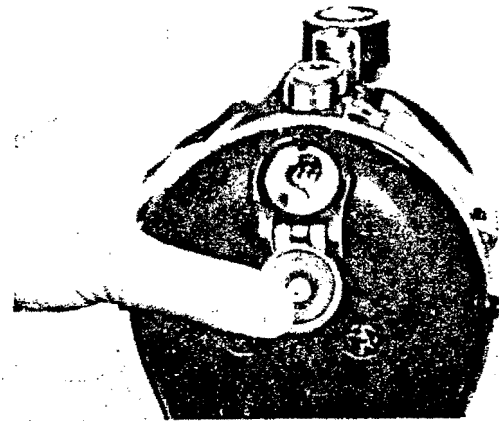

Figure 7-36. Timing Window
**7-51. INSTALLATION OF MAGNETO.** Before installing a magneto on the engine, the internal timing of the magneto should be checked. To do this, remove the breaker compartment cover. Attach the red wire of PWA-2417 Indicator to the breaker points and ground the black wire to the magneto housing. Place a straightedge against the step on the breaker cam and turn the magneto drive shaft in the normal direction of rotation. The light of the indicator should flash on just as the straightedge comes into alignment with the timing marks on the magneto housing. On Scintilla magnetos the timing marks shown through the timing window should align at this point [Figure 7-36]. If this check indicates that the magneto is not properly timed, the breaker points should be adjusted as follows: with PWA-2417 still connected and the straightedge aligned, loosen the contact bracket screws or the breaker plate screws and